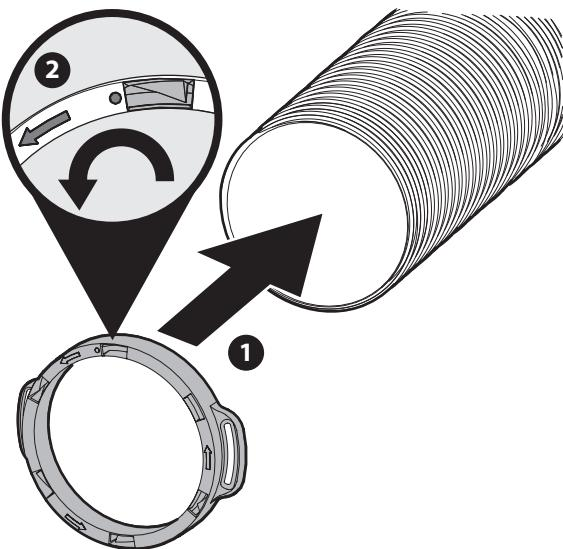

Figure 2
2. Install ring onto free end of hose by aligning start of hose ribbing with the ring window next to a molded dot and threading counter-clockwise until secure. See inset in Figure 2.